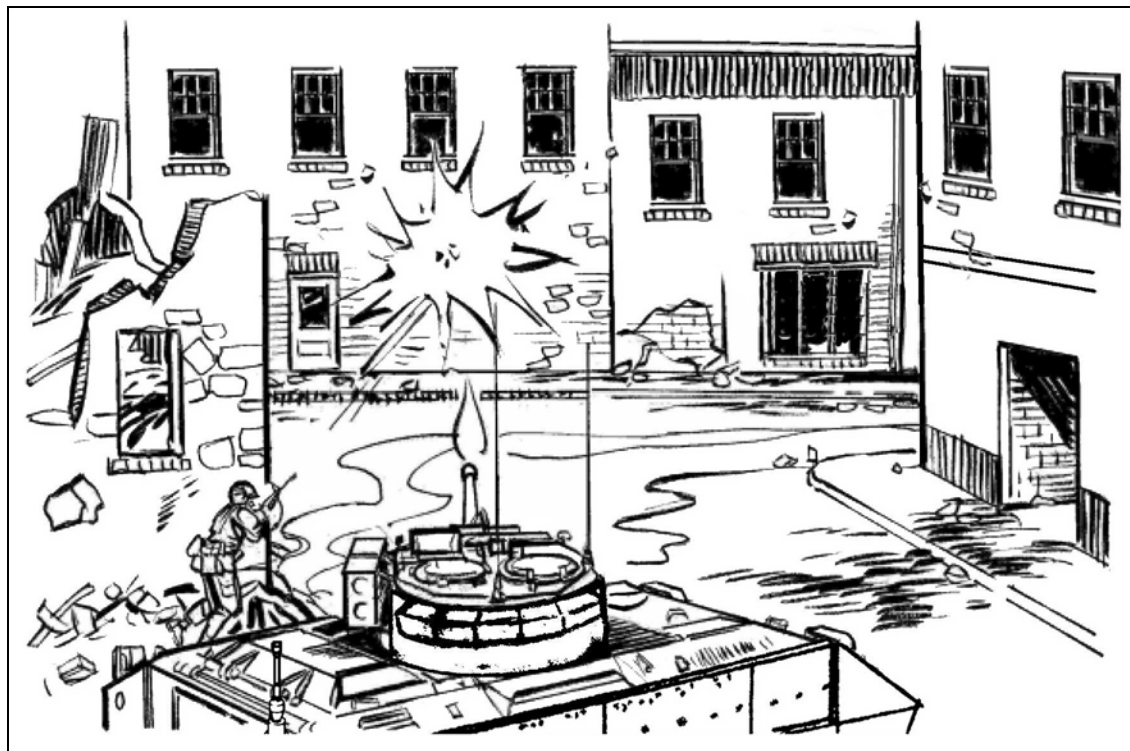

Figure E-2. Circular fire pattern used to breach wall.
e. **Breach of a Wall.** Figure E-2 shows one way to breach a wall using the 25-mm main gun. TP-T is the best ammunition for this job.